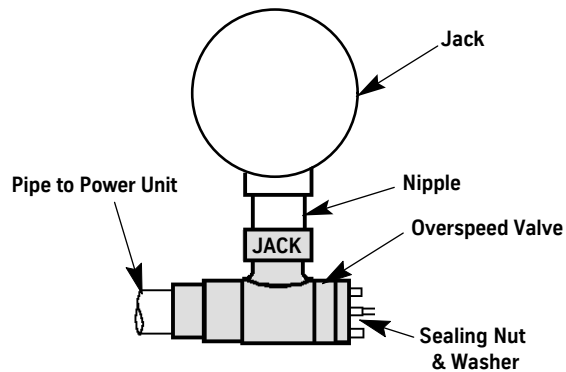

Figure 17 - 2" Overspeed Valve (90° shown, in line available)
1. Install the overspeed valve within 12" of the jack. See Figure 17 for proper orientation of the valve.